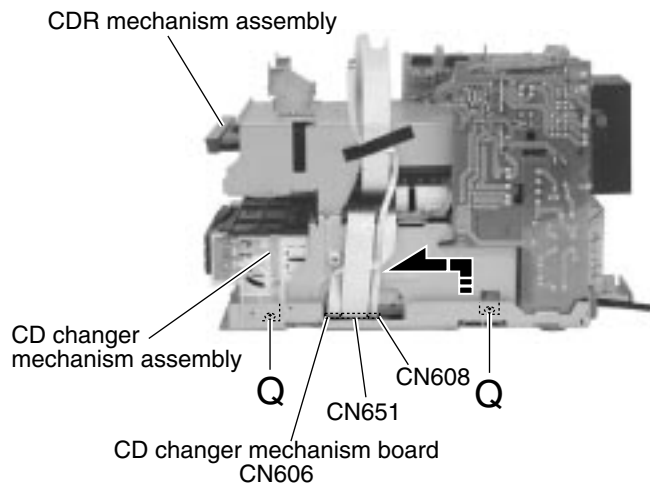

Fig.31
■ **Removing the CD changer mechanism assembly (See Fig.31 to 33)**